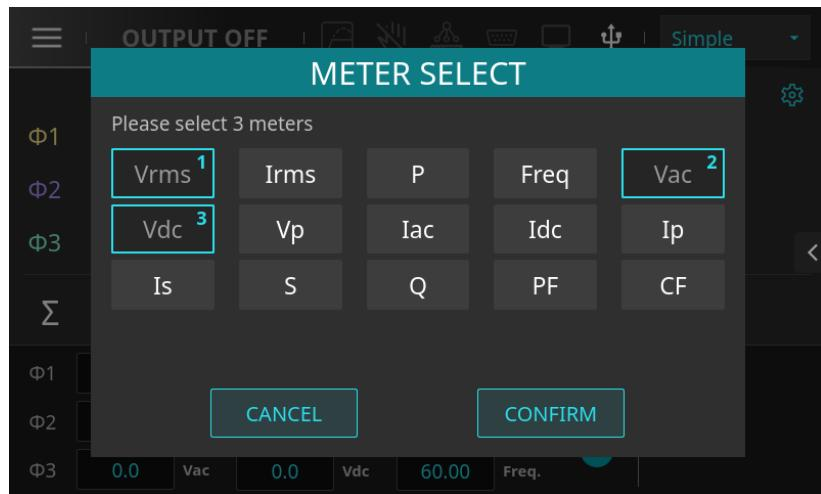

Figure 4-12: Page for selecting measurement parameters “Vac” and “Vdc”
3. Press the desired new parameters "Vac" and "Vdc", as shown in Figure 4-12.